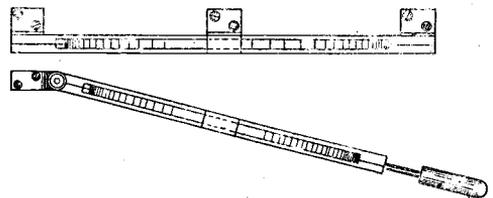

Fig. 5. This type is often employed in transmitters, the two spiral windings being connected in series, and one movable with respect to the other.
(B) An equally simple arrangement often to be found in transmitters consists of two spiral coils, one fixed and the other hinged (Fig. 5). The inductance is varied by changing the position of the moving coil. Of course, any form of coil may be used, provided it is designed to work properly in the circuit it will be used in.